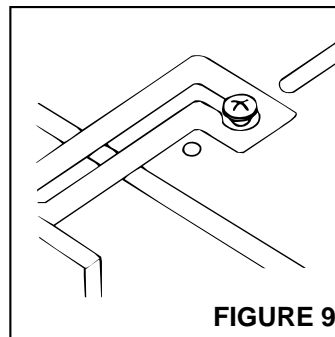

FIGURE 9
3. Refer to Figure 9. Attach master panel to rough-in frame by placing keyhole slots in both mounting hinges over screw heads in rough-in frame.